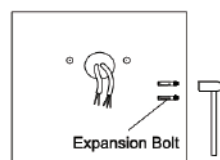

Figure 19
Step 2: Knock the expansion bolts into the wall.(Figure 19)